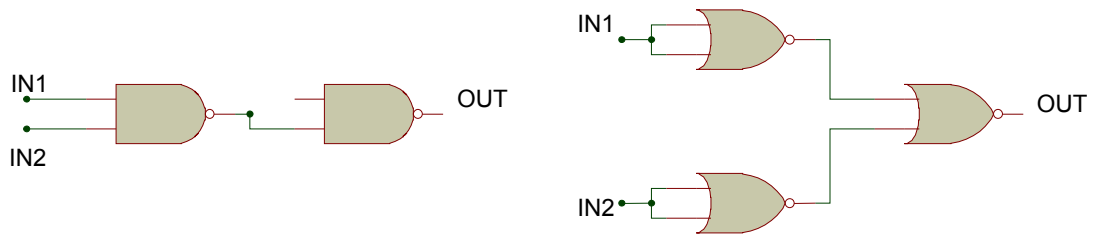

**Figure 3.1: Inverter**
- Short circuit both the inputs of NAND and NOR gate as shown in Figure 3.1, to verify its functionality as inverter and complete the truth table 3-3.